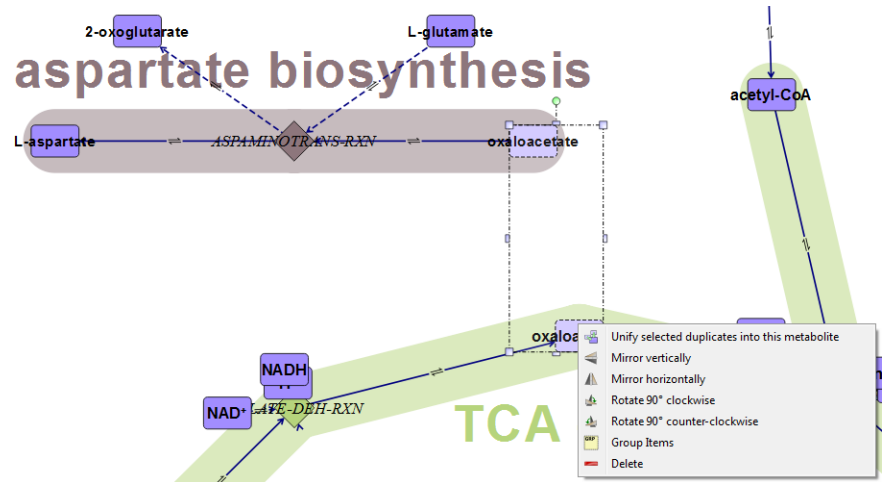

Figure 84 Drawing Area showing the final arrangement of the aspartate biosynthesis pathway
- r Click **Unify selected duplicates** into this metabolite. The two pathways are now joined together (Figure 84 on page 86).